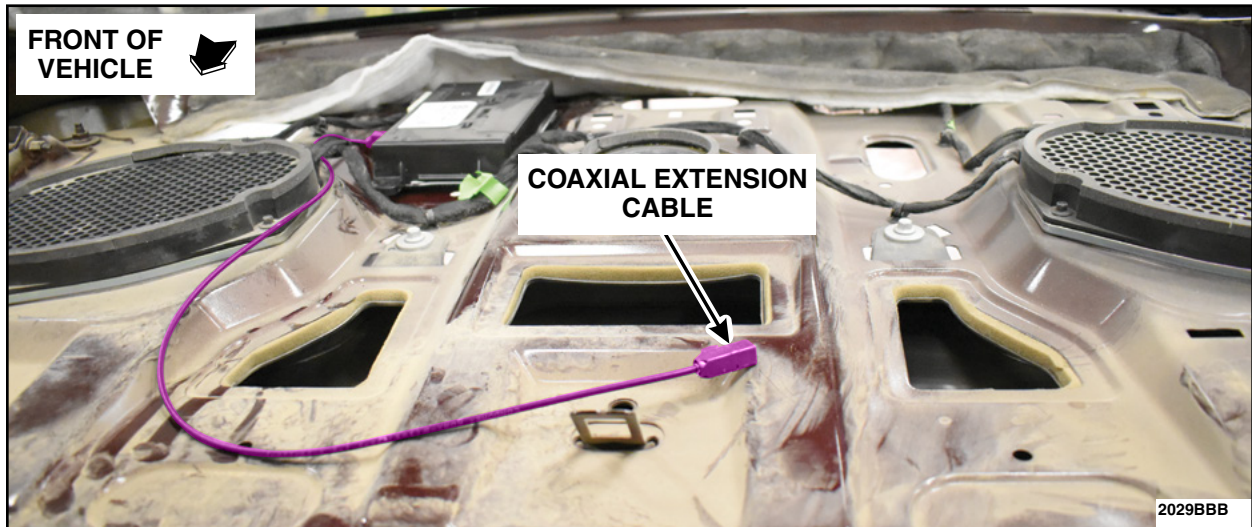

FIGURE 7
8. Route the coaxial extension cable around the speaker and toward the center of the parcel shelf. See Figure 7.